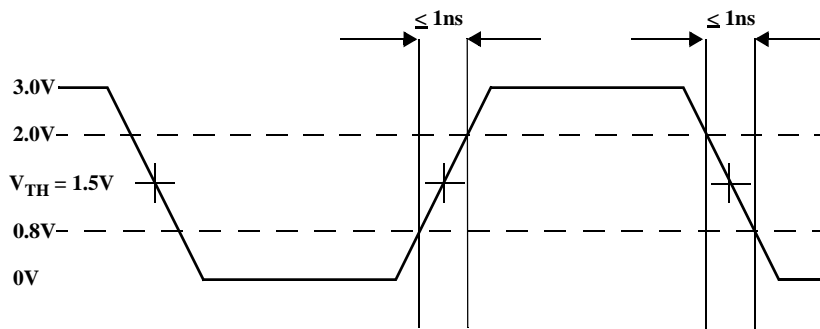

Figure 9. +3.3V LVTTTL Input Test Waveform
- Reference Figure 11 for clock output loading circuit that is equivalent to the load circuit used for all AC testing. The input waveform used to test these parameters is shown in Figure 9.